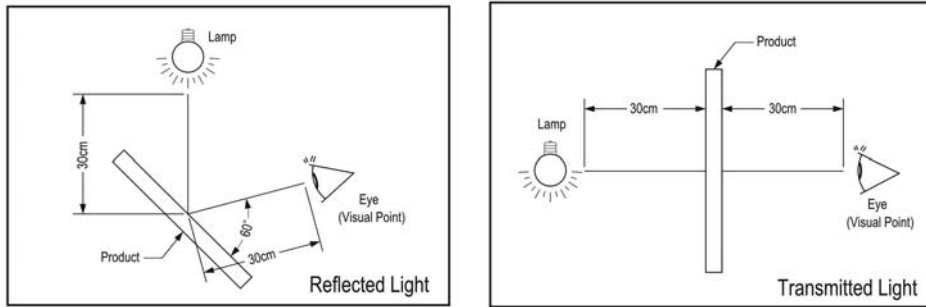

Figure 11-1
(1) The inspection was performed with one 17W fluorescent lamp lighting from back or side. The panel was placed 30cm away from eyes. (Figure 11-1)